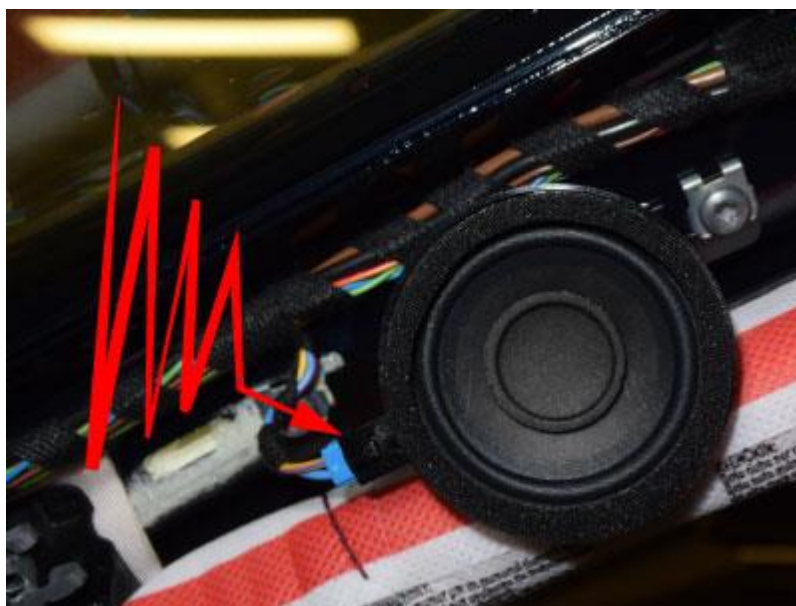

Figure 1. Unwanted noise at the A-pillar speaker's electrical connection.
1. Verify that the noise is coming from the electrical connector at the A-pillar speaker (R276 or R277) (Figure 1).